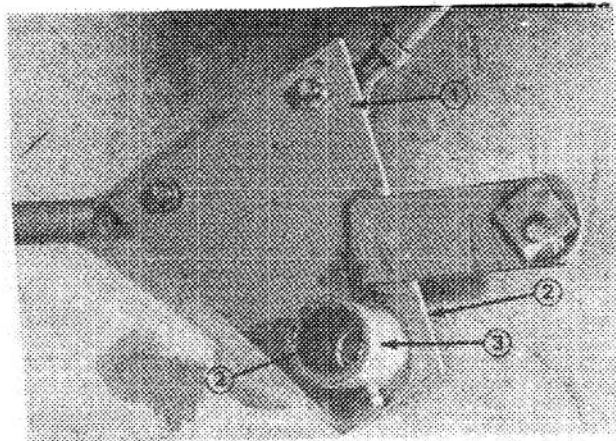

Figure 47
4. Using pin punch and hammer, drive both bushings out of steering plate (Fig. 47). Clean inside of steering plate to remove dirt and foreign matter. Also clean mounting pin on bottom of rear axle.
5. Notice groove on inside of new bushing. When it is installed, open end of groove must be to the outside of the steering plate tube. Apply grease to the inside and outside of the new bushings. Use an arbor press to drive bushings into top and bottom of the steering plate tube. Bushings must be flush with end of tube (Fig. 47).